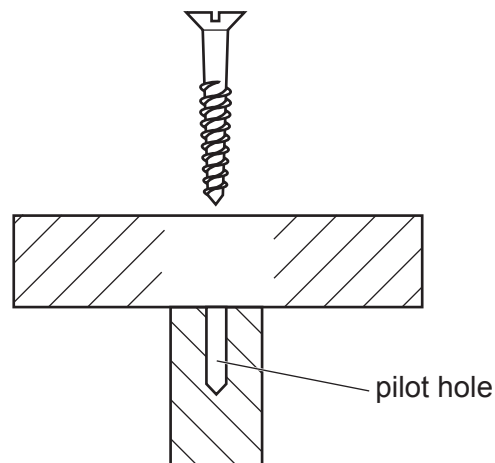

Fig. 2.1
- 2 Fig. 2.1 shows two pieces of hardwood prepared to take a countersunk head screw.
Sketch onto Fig. 2.1 to show: